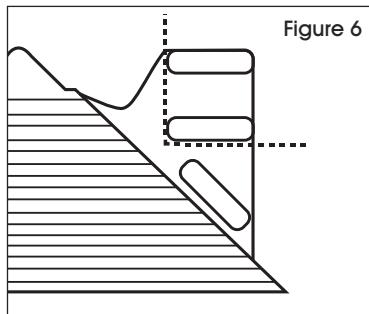

Figure 6
5. Remove the connector tab off of the end trimming (See Figure 6) and use to secure the ramps where they meet using the sockets on the bottoms (See Figure 7). For inside corners, use this same method, but instead trim along line "B" on both ends.